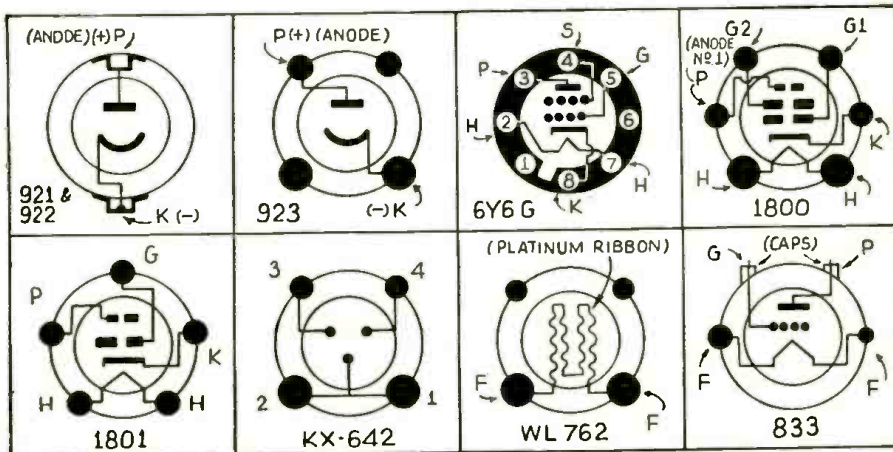

Fig. 1. Underside socket connections of new tubes.
**Infra-Red, Gas-Type Prong-Base Photocell; Type 923.** Because of the high sensitivity of this type cell, which can "see" radiations in the infra-red region quite invisible to the naked eye, it is particularly useful in applications where incandescent lamps are employed as light sources. See Fig. C. Base connections are given in Fig. 1.
**Infra-Red, Gas-Type Cartridge-Base Photocell; Type 921.** Substantially identical characteristics to the type 923, but with cartridge-type base like the type 922 photocell. Also, the 921 has a window area of only 0.38-sq. in.; input capacity is 1.1 mmf. Load resistance, not over 10 megs. Base connections in Fig. 1.
Characteristics: cathode, caesium-coated and semi-cylindrical; window, 0.38-sq.-in. Anode-supply voltage, 250 (max.); anode current, 30 microamperes (max.); load resistance, 1 meg.; sensitivity, 20 microamperes/lumen. Light response may be made practically linear for light inputs up to 1 lumen with proper adjustment of supply voltage and load resistance. See Fig. 1 for base connections.
Base connections appear in Fig. 1.
**Cathode-Ray Kinescope (Television Receiving Tube), 5-in. Size; Electromagnetic Deflection; Type 1801.** For the first time, experimenters now have available a commercial-built (as compared to the school-built type now being described in *Radio-Craft*) cathode-ray tube specifically designed for television-reception experiments! The screen is of medium-persistence type; the fluorescence color is yellow (phosphor No. 3); max. screen diameter, 5 1/16 ins. This tube is shown pictorially in Fig. B. Base connections are given in Fig. 1. Additional characteristics follow:
**Cathode-Ray Kinescope (Television Receiving Tube), 9-in. Size: Electromagnetic Deflection; Type 1800.** Like the type 1801 kinescope this model (shown in Fig. B) has a medium-persistence screen; and phosphor No. 3 (yellow). Base connections are given in Fig. 1; and characteristic data follow: